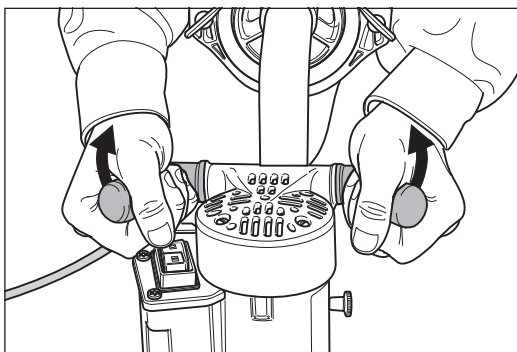

Fig. 9 Tilt the machine backwards slightly before starting and switching off the machine.
- **Always** tip the machine backwards slightly (fig. 9) before starting the machine so that the sanding disc is raised off the floor!
- 1 Tip the machine backwards slightly (fig. 9)!
**Always tip the machine backwards slightly (fig. 9) before switching off the machine so that the sanding disc is raised off the floor!**
- 1 Tip the machine backwards slightly (fig. 9)!**